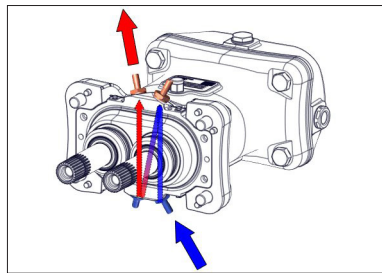

Fig. 5.4: Loss flushing
- ▶ Make the connection as shown in Fig. 5.4 and Fig. 5.5